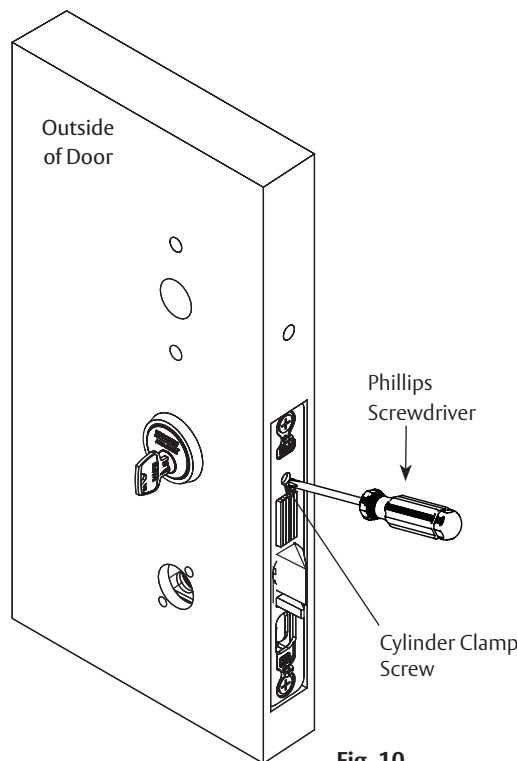

Fig. 10
- e. Hand tighten cylinder clamp screw with Phillips screwdriver to prevent unscrewing of cylinder. (Figure 10)